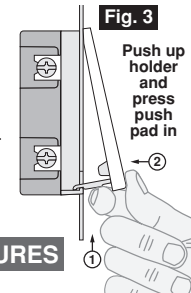

Fig. 3
Air-Gap Switch: On the dimmer only, gently pull the bottom of the push pad forward until it lifts off the strap to engage the air-gap switch. This will cut power to the fixture to replace the bulb. After servicing is complete, to return push pad back to neutral position disengage the push pad holder by pressing on push pad holder with index finger while pushing the push pad back into the neutral position (refer to OPERATION figure 3).
- C)** To return push pad back to neutral position disengage the push pad holder by pressing up on push pad holder with index finger while pressing the push pad until fully depressed (refer to OPERATION figure 3) and hold for 7 seconds until the LED Brightness Display starts bidirectional strobing to indicate Program Mode **C, Restore Default**. To **Restore Default** settings, release the Push Pad. This will exit programming mode **C**.